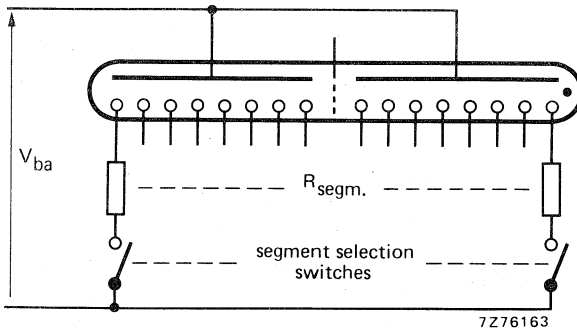

Fig. 1
**Static operation** see Fig. 1